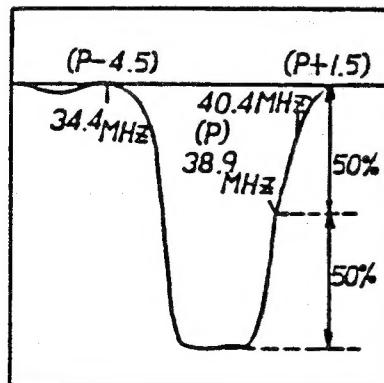

Fig. 6
9. Connect TP1(CP201) (disconnected in item 2) by soldering it.
11. Adjust the IFT coil L201 to increase the waveform size and P is 50% as shown in Fig.6.